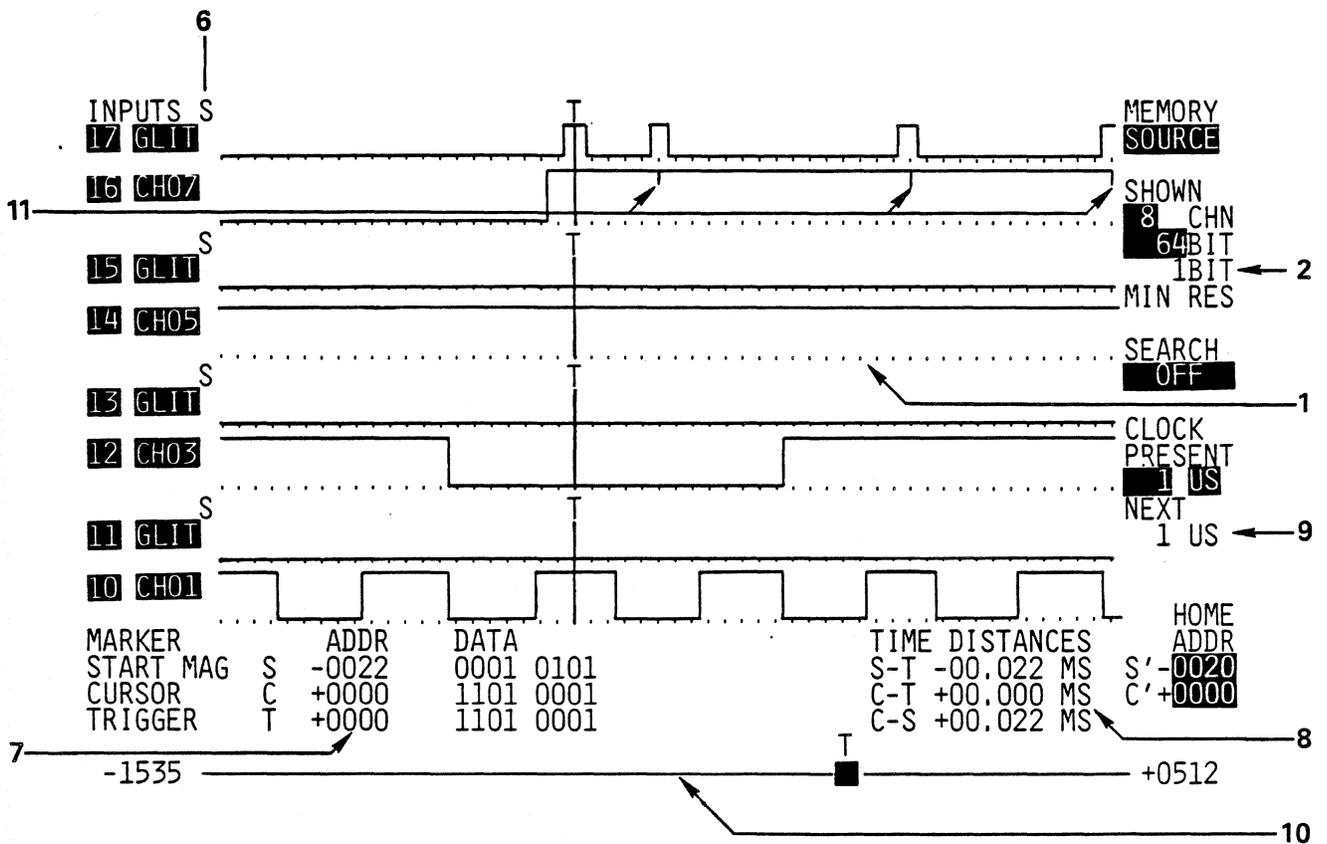
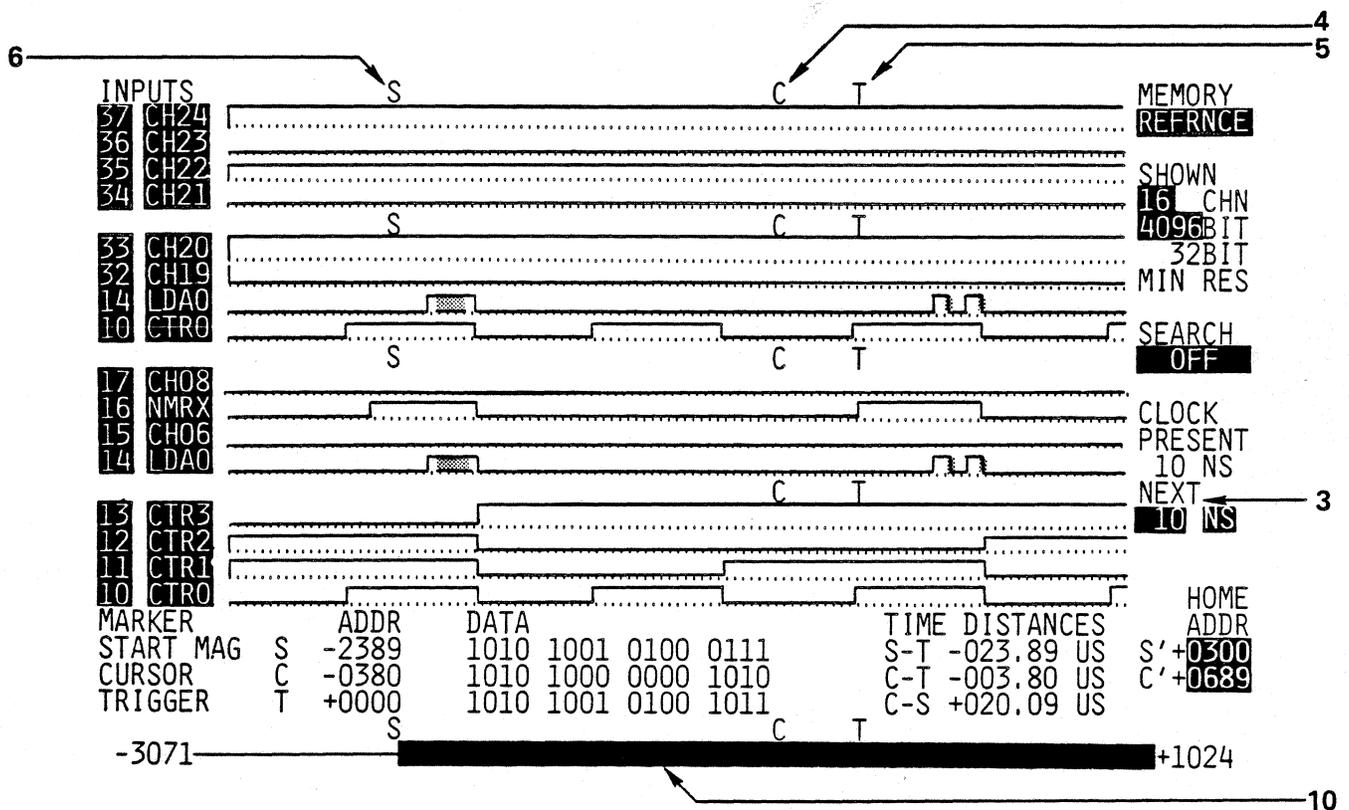
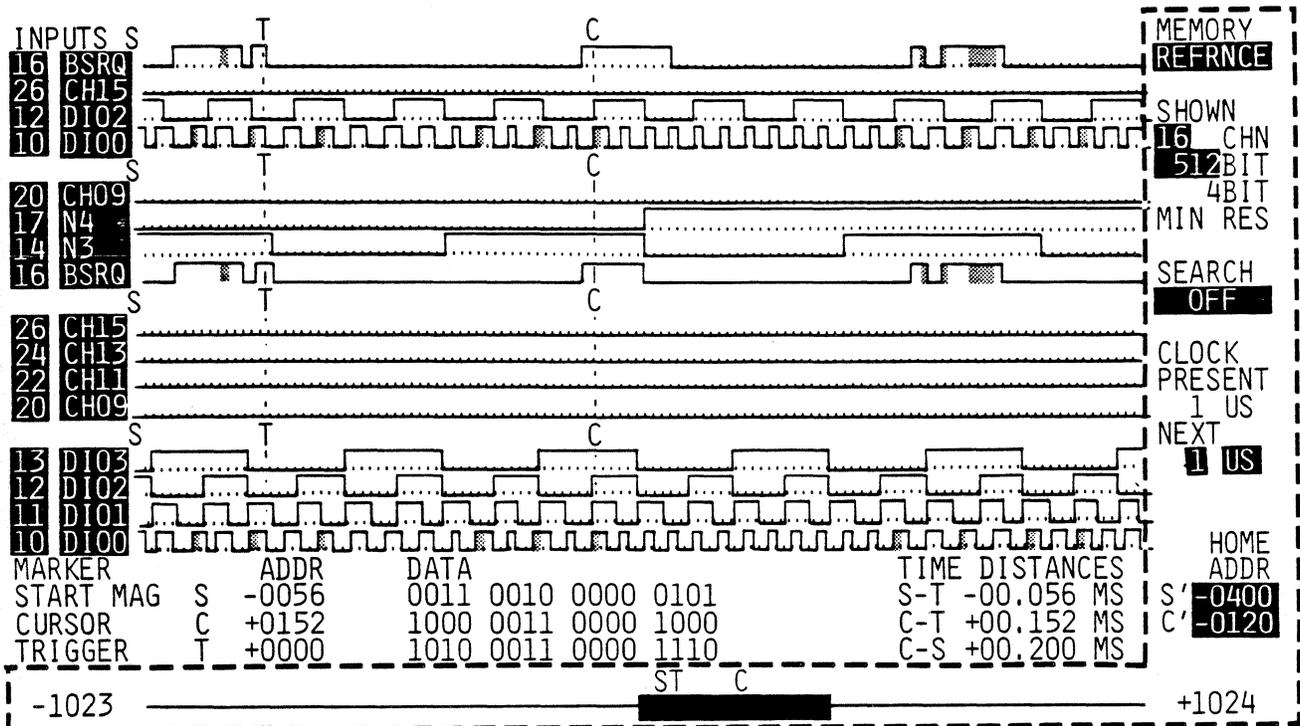

Figure 3-25 8-Channel Timing Display
Figure 3-26 16-Channel Timing Display
Figure 3-27 Sub-Menus In The Timing Display
For easy recognition, all channels can be assigned mnemonics. Time measurement with two cursors, and word search are also possible. Parameters can be entered in input fields around the actual timing diagram display. See Figure 3-25, 8- and 16- Channel Timing Diagram Displays, Figure 3-26, Sub-menus In The Timing Display, and Figure 3-27, Input Fields In The Timing Display. An explanation of the various areas of the timing display is given in the next section.
| SCREEN AREA | CALL OUT NUMBER IN FIGURE 3-25 AND FIGURE 3-26 |
The memory addresses for C, T, and S are displayed in field 7 as identified in Figure 3-25. The bit of the highest value corresponds to the displayed channel in the top line. Readout proceeds from top to bottom.
Time distances between positions C, T, and S are displayed in field 8 as shown in Figure 3-25. These times refer to the internal clock with the clock rate set during the recording, and are not valid for channels recorded with an external clock. The resolution with which these clock times are determined also corresponds to the internal clock rate.
The clock rate is given in field 9 as shown in Figure 3-25. This rate refers to the clock rate that was set during the recording and is valid for all the channels of the display recorded with this internal clock. The clock rate displayed under NEXT can differ from the PRESENT rate as long as no recording is done under the new setting.
The line at the bottom of the screen display, identified as field 10 in Figure 3-25, shows the position of the displayed segment in the entire time window. When the line is moved from the start magnification location, the light bar on the line also moves with it.
2. 16-Channel Time Display. Glitches appear either as shaded areas on the signals identified as 3 in Figure 3-25 or are displayed as logical 1 at the appropriate positions on the glitch channels.
The selection of which of the two memories should be displayed is made in Field 3 in Figure 3-27, Input Fields In The Timing Diagram. Either the source or the reference memory can be displayed. The setting S XOR R executes a quick optical data comparison between both memory contents. Only the differing locations are displayed as 1's. To load the source data into the reference memory, the display S → R is rolled to in field 3, then the EXECUTE key (19) is used to move the data.